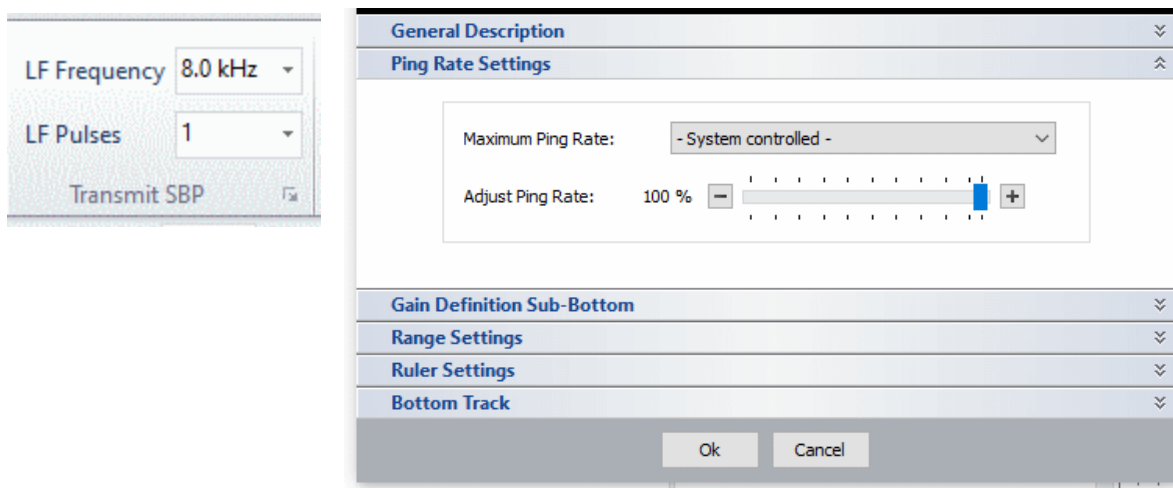

Figure 6: Setup menu, Ping Rate Settings
- **Ping rate settings:** In most cases you will allow the maximum ping rate possible by applying **-System controlled-** (Figure 6). You can reduce ping rate (for instance in shallow waters) by setting a fixed ping rate or allowing percentages of the maximum ping rate. Only LF frequency can be adjusted. Lower frequencies will achieve better penetration than higher frequencies, but at reduced resolution. Higher frequencies will achieve better resolution, but with reduced penetration. Usually, higher frequencies are used due to better efficiency and better signal to noise ratio and better resolution. A good starting point for usual survey work is 10 kHz. LF-Pulses represent the number of cycles